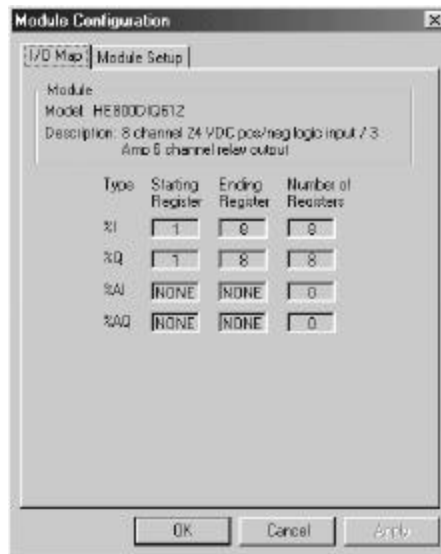

Figure 10.6 – I/O Map Tab
5. The Module Configuration Screen appears (Figure 10.6). Two tabs are available for selection: